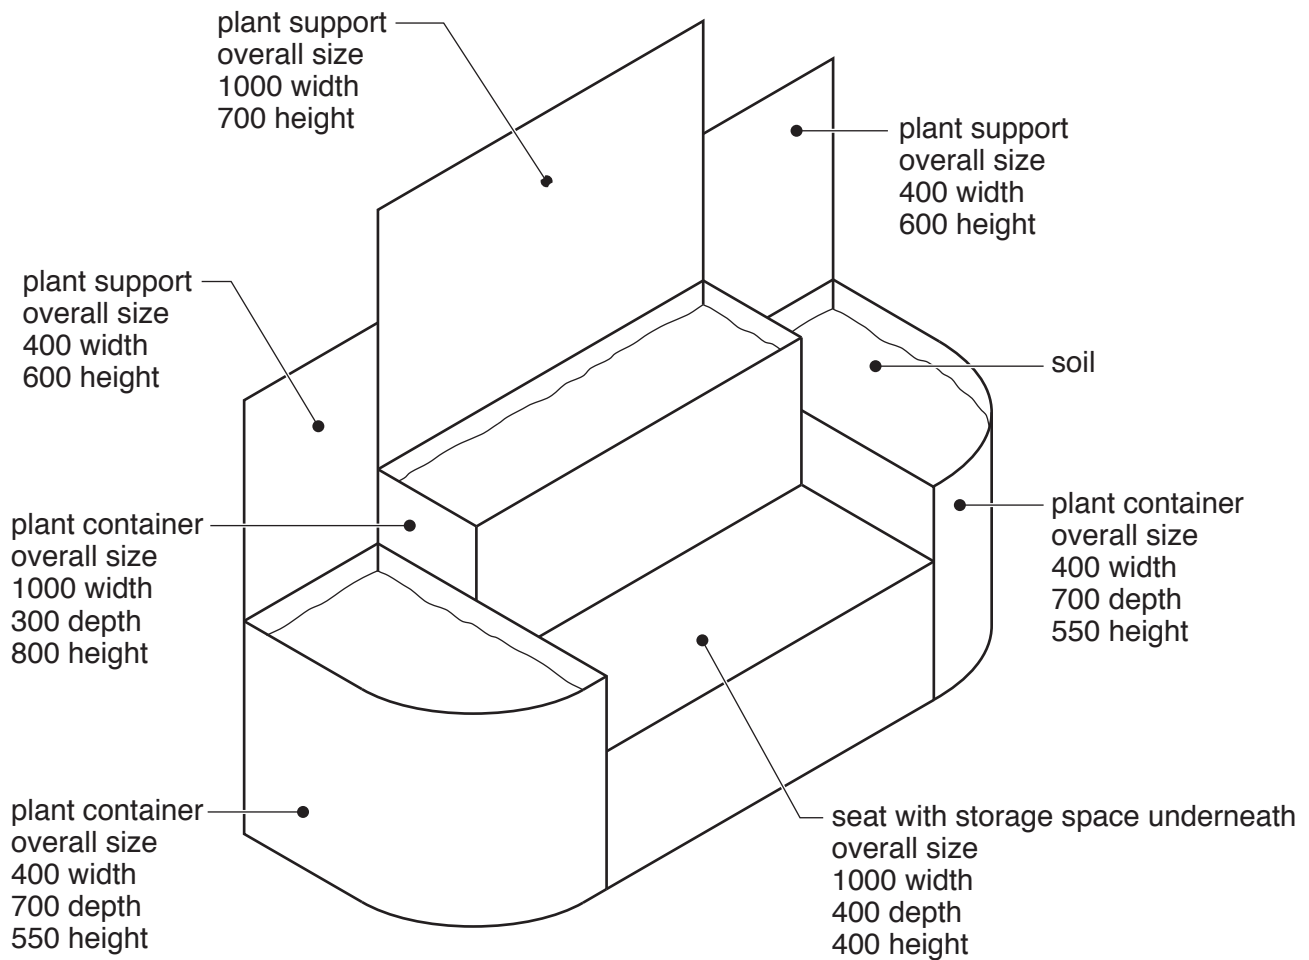

Fig. 9
- 9 Fig. 9 shows an incomplete design for modular garden furniture that combines a seat, with storage space underneath, three plant containers and supports for plants to climb up.